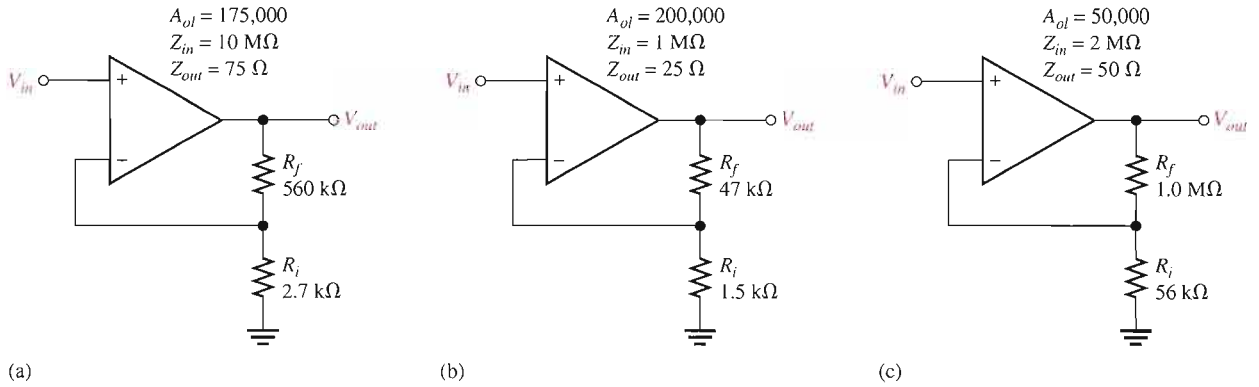

FIGURE 12-60
19. Determine the input and output impedances for each amplifier configuration in Figure 12-60.
23. Determine the compensating resistor value for each amplifier configuration in Figure 12-60, and indicate the placement of the resistor.